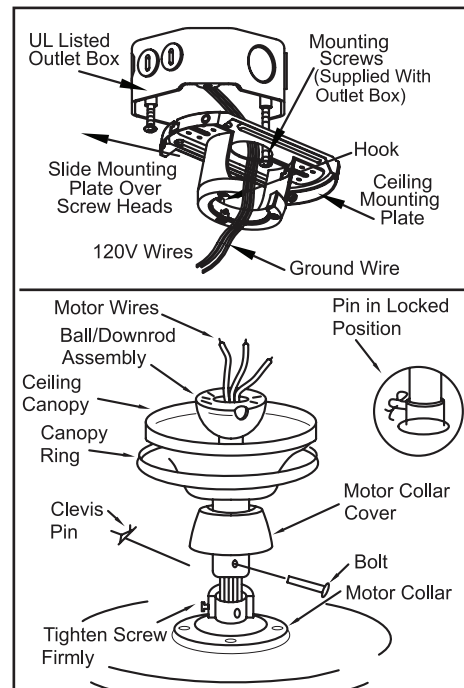

Figure 7
3. Route the wires exiting the top of the fan motor through the decorative motor collar cover then the canopy ring. Make sure the slot openings are on top. Route the wires through the canopy and then through the ball/downrod assembly (Figure 7).
5. Align the holes at the bottom of the downrod with the holes in the collar on top of the motor housing (Figure 7). Carefully insert the bolt through the holes in the collar and downrod. Be careful not to jam the bolt against the wiring inside the downrod. Insert the
Clevis pin through the hole near the end of the bolt until it snaps into its locked position, as noted in the circle inset of Figure 7.
1. Pass the 120-volt supply wires through the center hole in the ceiling mounting plate as shown in Figure 7.
2. Install the ceiling mounting plate on the outlet box, by sliding the mounting plate over the two screws provided with the outlet box (Figure 7). When using close-to-ceiling mounting, it is important that the mounting plate be level. If necessary, use leveling washers (not included) between the mounting plate and the outlet box. Note that the flat side of the mounting plate is toward the outlet box (Figure 7).